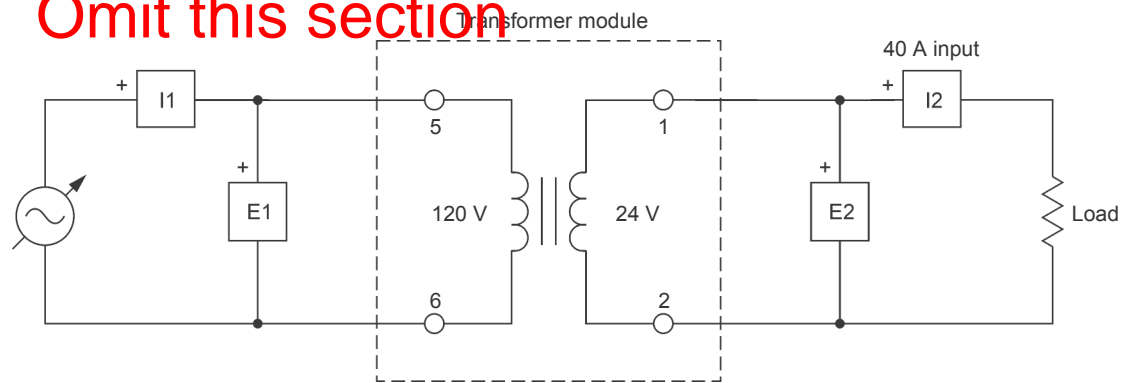

Figure 9. 120 VA step-down transformer connected to the low-resistance load available in the Wind Turbine Generator/Controller module.
32. Set-up the 120 VA step-down transformer shown in Figure 9. Do not connect the resistive load, i.e., the load resistors of the Wind Turbine Generator/Controller module, to the circuit for the moment. The load resistance at the transformer secondary is thus infinite.
On the Wind Turbine Generator/Controller module, connect all three 15  $\Omega$  load resistors in parallel. Then, connect the resulting 5  $\Omega$  resistive load to the circuit, as shown in Figure 9.